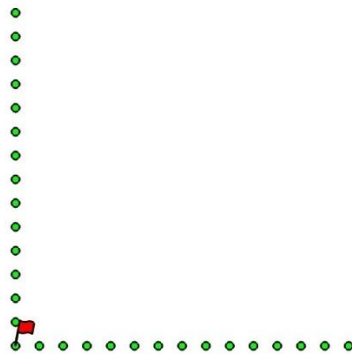

Figure 7-5: Marking the line spacing and starting positions for every line
Step 3 – Mark the Line Start Positions – with the tape measure still on the ground, mark the line start positions based on the line spacings (Figure 7-5). Usually flags or paint work for grass, and chalk or paint on concrete. It is also recommended to paint a distance measurement every so often, in case you forget which line you're on.